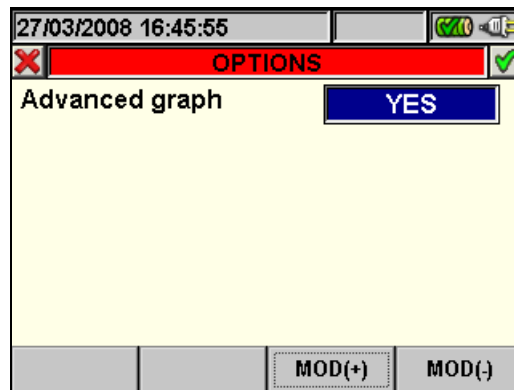

Fig. 110: Options (Advanced graph)
- **F4** key (or **OPTIONS** item on the display) to access the page for the activation of the “Advanced graph” (Fig. 110).
2. Press the **F4** key (or the **OPTIONS** item on the display) to access the page for the activation of the Advanced graph (Fig. 110).